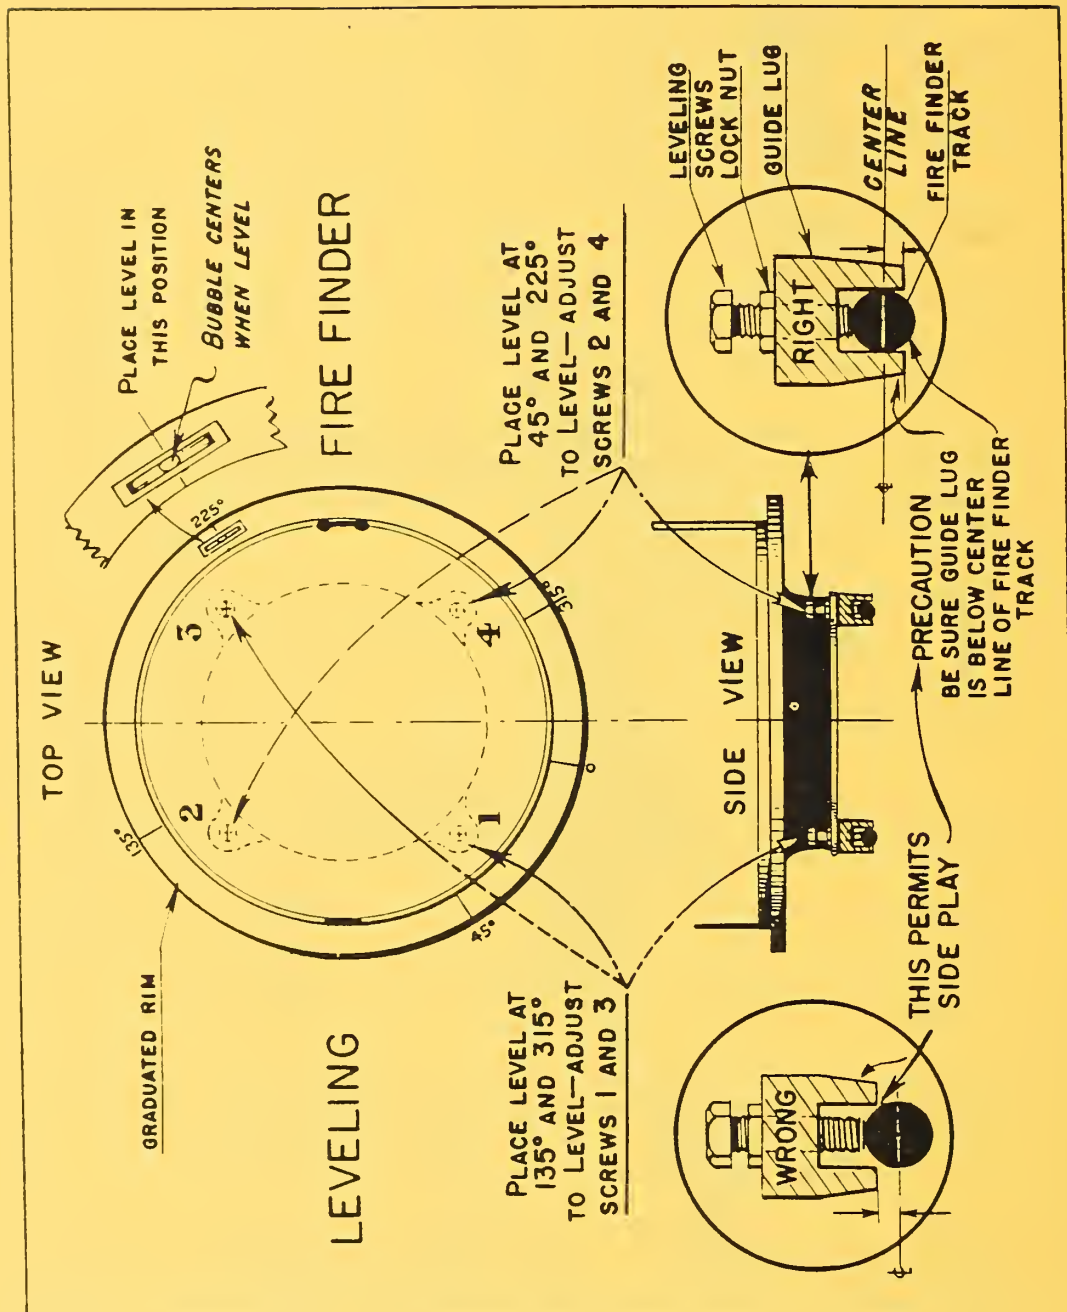

Figure 2.--Leveling the firefinder.
a. Leveling Firefinder. Each morning check to see that the firefinder is level (figure 2).